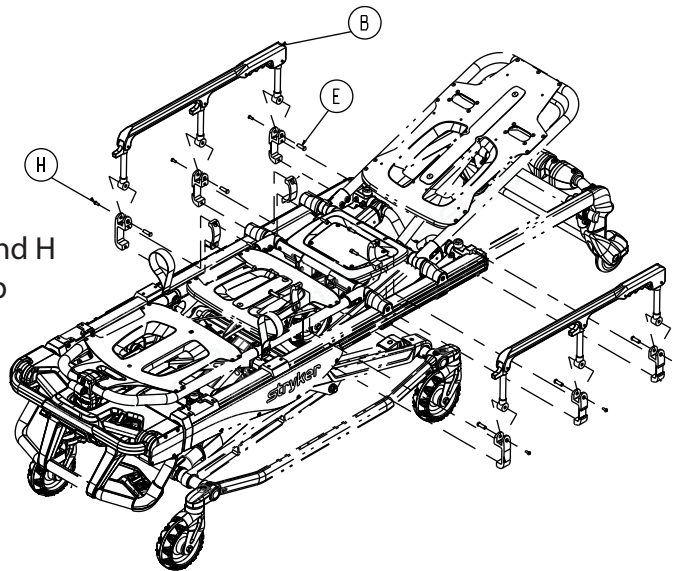

Figure 46 – Standard siderail components
5. Using a T25 Torx driver and a 3/16" hex driver, remove the three button head cap screws (H) and siderail nuts (E) that secure the siderail assembly to the cot (Figure 46). Save the screws and nuts.
6. Remove and discard the siderail (B) (Figure 46).